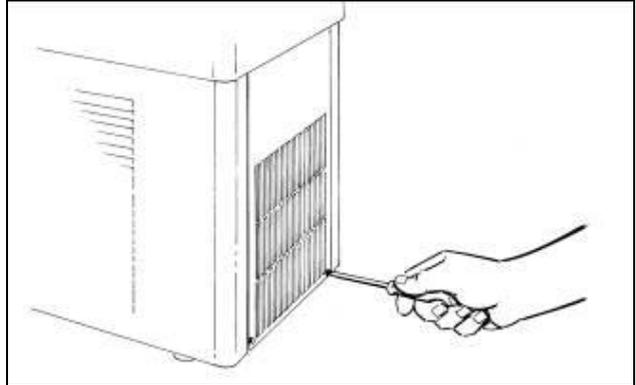

Fig. 45
- GT1 machine: remove the rear panel by unscrewing the two bolts fastening it (fig.45);